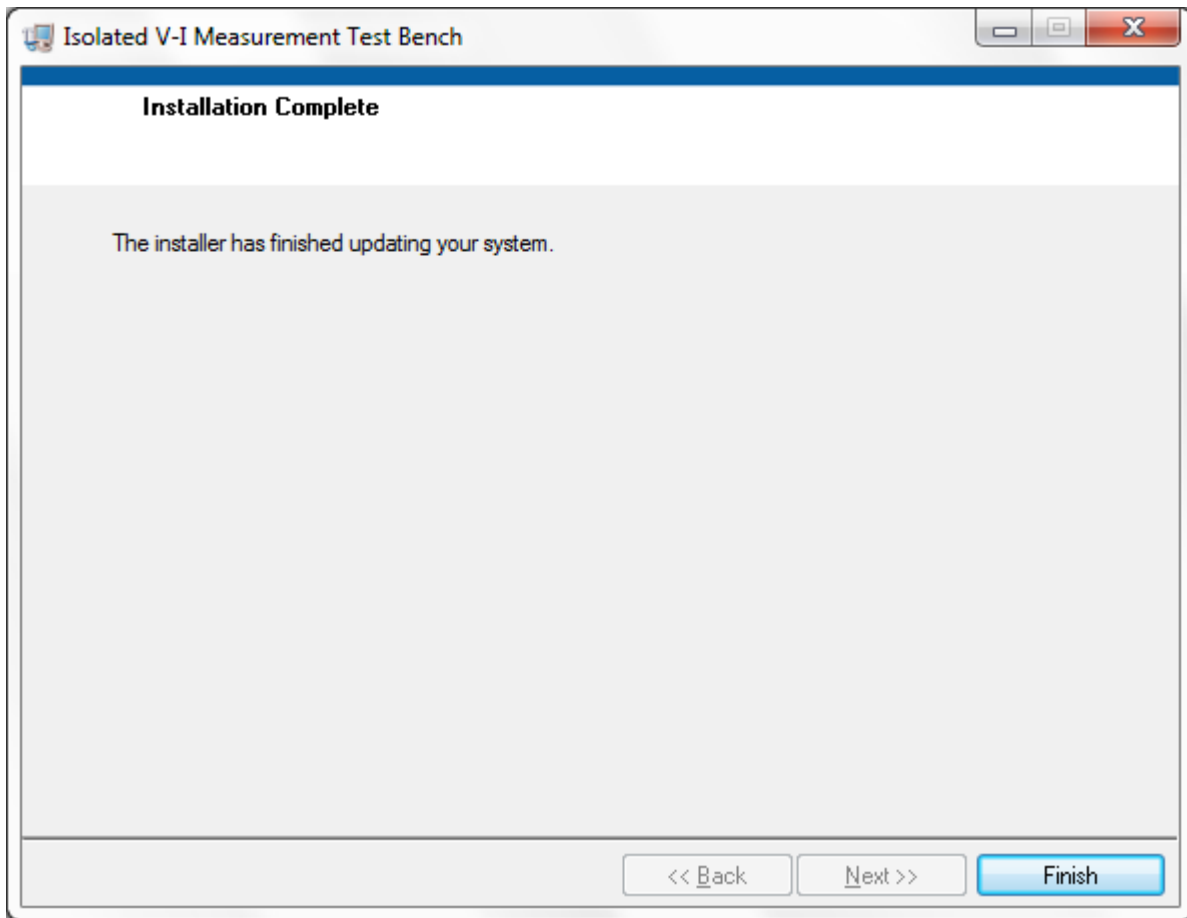

图 28. Window After Successful Installation
3. After starting the installation and then finishing, click the *Finish* button as shown in 图 28.